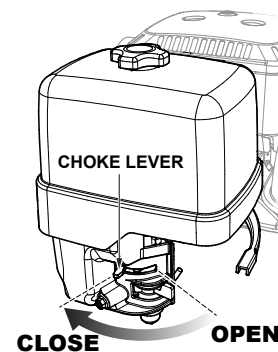

Figure 21. Choke Lever
4. To start a cold engine, move the choke lever (Figure 21) to the **CLOSED** position.